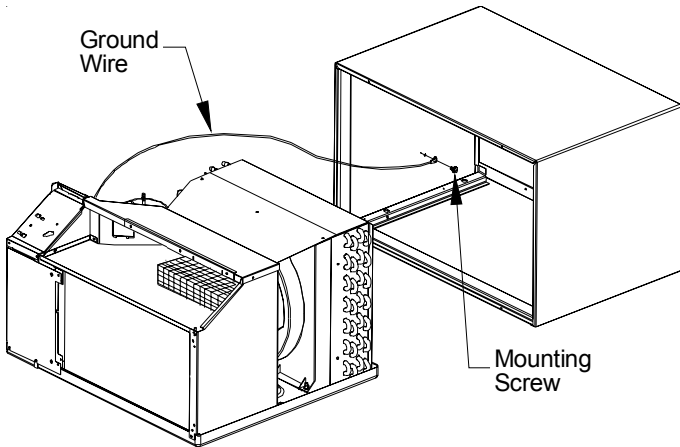

Figure 6
1. Inspect the ground wire (Figure 6) on the unit and ensure it is attached to the left side panel. If not, attach the wire to the panel.
2. Remove the mounting screw from the left hand side of the existing sleeve (Figure 6). Place the screw through the eyelet on the unattached end of the ground wire of the unit and reinsert into its mounting hole.